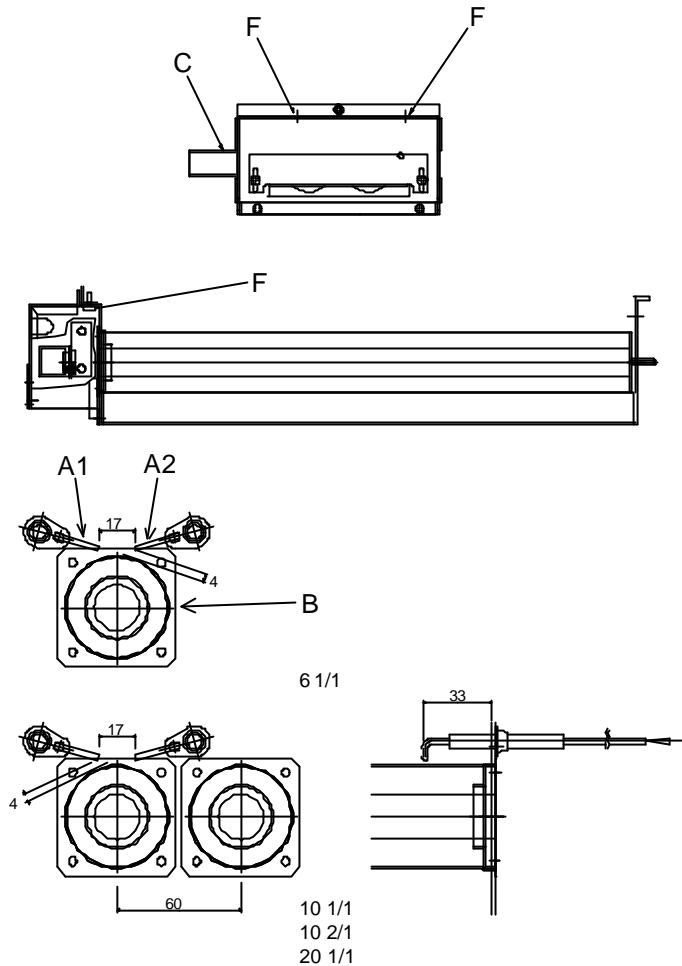

Figure 5p
5.10.2. Burner and electrodes: they can be reached in the same way as the nozzles. To disassemble the burners set, remove the primary air adjustment plate, loosen the gas pipe from the manifold and unloosen the 2 screws in "F" position (fig. 5p). Drag the burner for about 5 mm (0.19 in) towards the operator. Then it can be moved downwards and extracted from the rear pivots.
At this point, the burners or the spark plugs can be replaced, if necessary. When replacing them, do the same operations but in the inverse order. Respect the distance between electrodes and burner shown in figure 5p. Then check for leaks between the ramps and the manifold. Lastly, adjust the primary air.